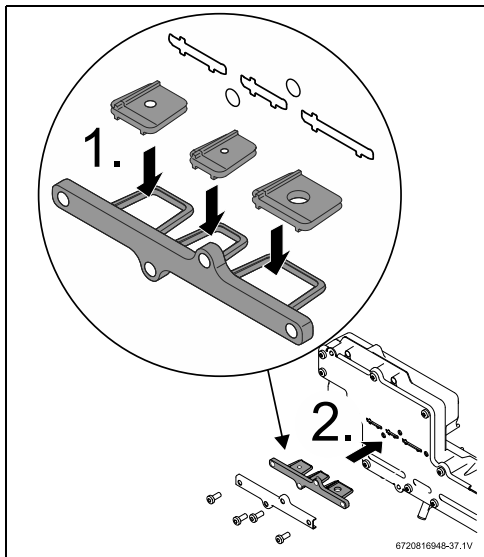

Fig. 48 199kBTU appliance gas conversion kit
- ▶ The 3 restrictor plates should be pre-assembled onto their tray, but if loose in box, follow installation instructions, as shown in fig. 48 and 49 [1].
- ▶ Insert the LP conversion plate in the appropriate location shown in fig. 48 and 49 [2].
- All three flow restrictors and seal must be assembled according to the fig. 48 and 49, to assure correct appliance performance.